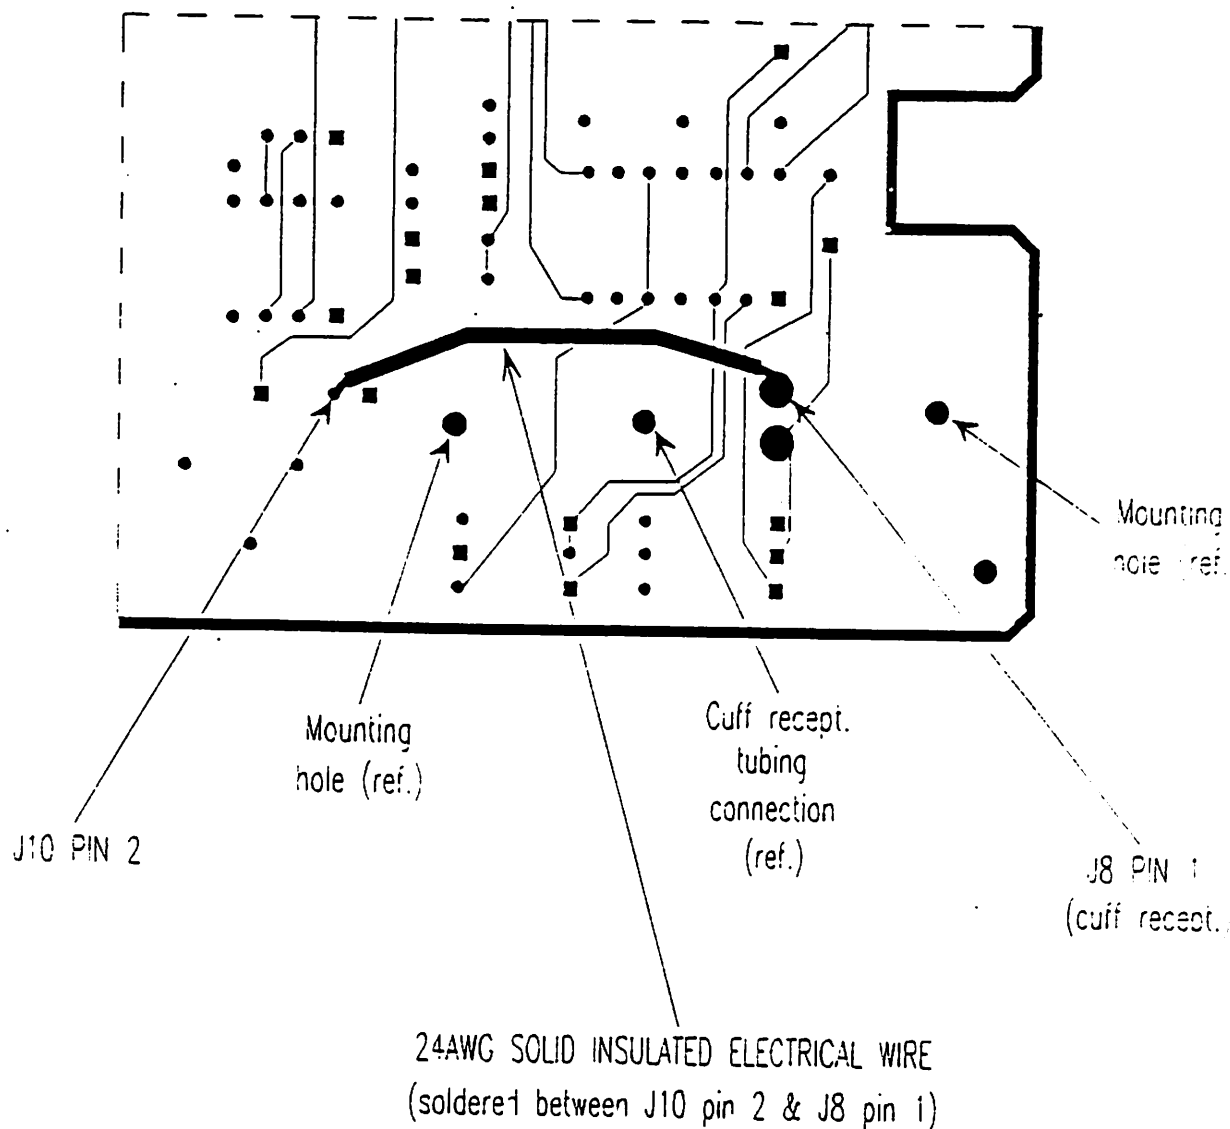

Figure 4
- A. To correct for electrostatic discharge-induced failures, the following changes have been incorporated onto the Logic/Analog board. See Figures 4 through 9.